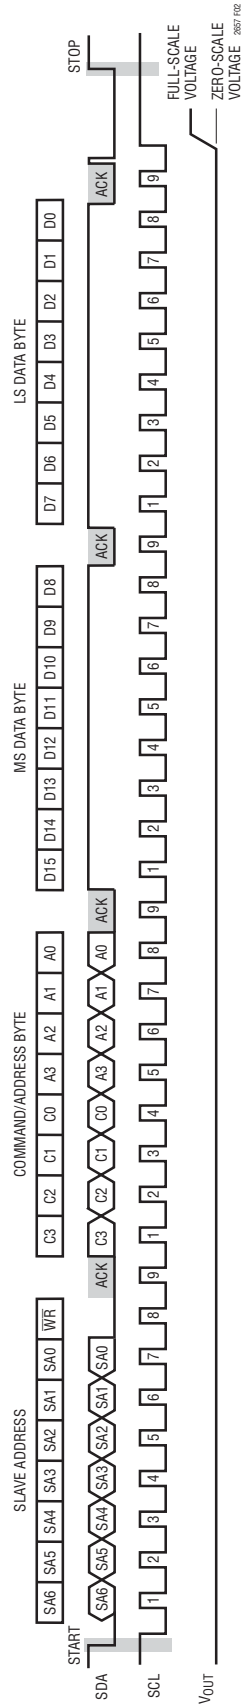

Figure 2. Typical LTC2657 Input Waveform – Programming DAC Output for Full-Scale
The master initiates communication with the LTC2657 with a START condition and a 7-bit slave address followed by the Write bit (W) = 0. The LTC2657 acknowledges by pulling the SDA pin low at the 9th clock if the 7-bit slave address matches the address of the part (set by CA0, CA1 and CA2) or the global address. The master then transmits three bytes of write data. The LTC2657 acknowledges each byte of data by pulling the SDA line low at the 9th clock of each data byte transmission. After receiving three complete bytes of data, the LTC2657 executes the command specified in the 24-bit input word. If more than three data bytes are transmitted after a valid 7-bit slave address, the LTC2657 does not acknowledge the extra bytes of data (SDA is high during the 9th clock). The first byte of the input word consists of the 4-bit command followed by 4-bit address. The next two bytes consist of the 16-bit data word. The 16-bit data word consists of the 16- or 12-bit input code, MSB to LSB, followed by 0 or 4 don't care bits (LTC2657-16 and LTC2657-12, respectively). A typical LTC2657 write transaction is shown in Figure 2. The command (C3-C0) and address (A3-A0) assignments are shown in Table 1. The first four commands in the table consist of write and update operations. A write operation loads a 16-bit data word from the 32-bit shift register into the input register. In an update operation, the data word is copied from the input register to the DAC register and converted to an analog voltage at the DAC output. The update operation also powers up the DAC if it had been in power-down mode. The data path and registers are shown in the Block Diagram.